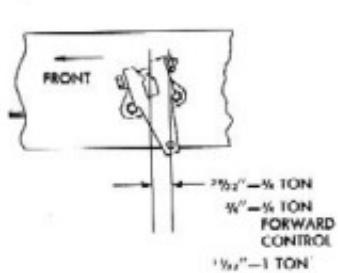

Fig. 52A—Positioning Outer Lever
4. On $\frac{3}{4}$ and 1 ton, adjust brake pedal pull rod clevis to obtain cross shaft outer lever position (fig. 52A).